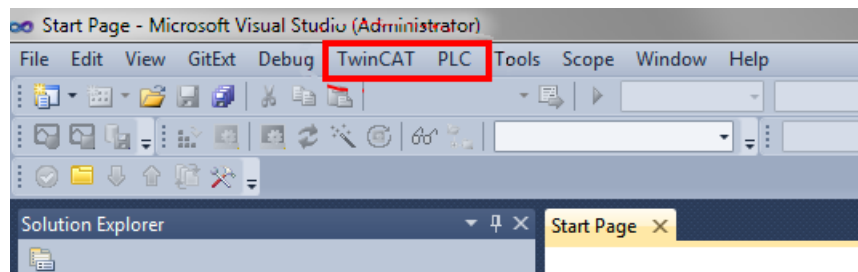

Figure 17. Visual Studio Menus for TwinCAT3
2. Verify that TwinCAT is running under Visual Studio. “TwinCAT” and “PLC” should both appear in the main toolbar as shown in 1. If these menu items are not shown, then the TC3 runtime is NOT running. Go back to step Figure 17 to restart the TC3 runtime.